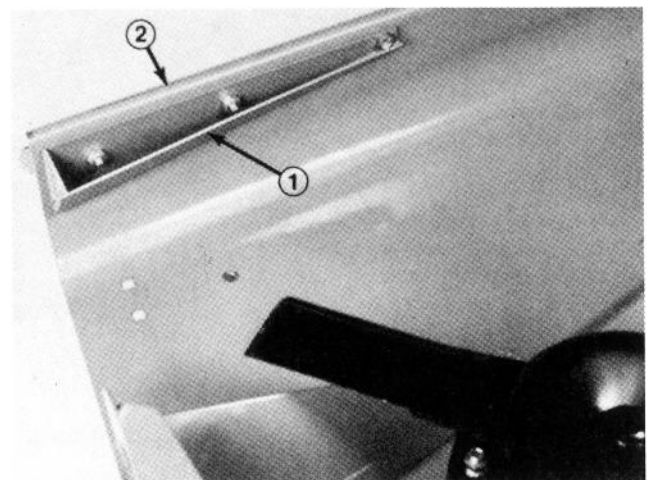

Figure 5
2. Position front baffle on underside of cutting unit and secure front of deflector with 5/16-18 x 7/8" capscrew and lock nut at mounting hole (Fig. 5).
3. Using front baffle as a template, mark and drill (2) 3/8 in. diameter holes in deck (Fig. 5). Secure with (2) 5/16-18 x 7/8" capscrews and lock nuts.